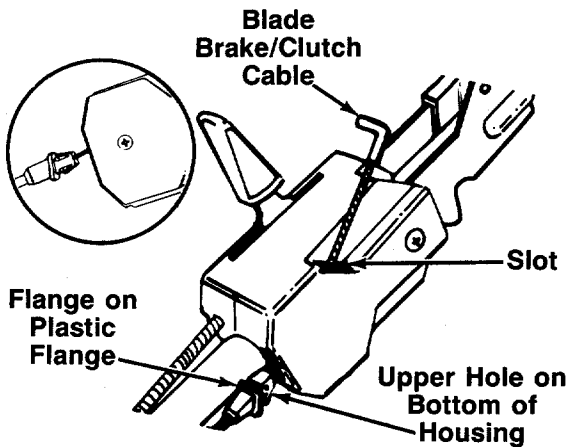

FIGURE 3.
1. Route the blade brake/clutch cable under the lower handle and inside the handle mounting bracket. Place end of cable into the upper hole on the bottom of the control housing, and through the slot on the side of the housing as shown. The angle of the plastic flange must be positioned downward as shown in figure 3. Be careful not to bend or kink the cable at any time. ←